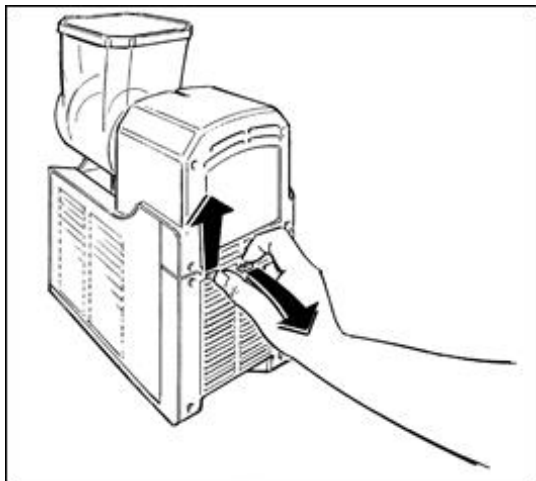
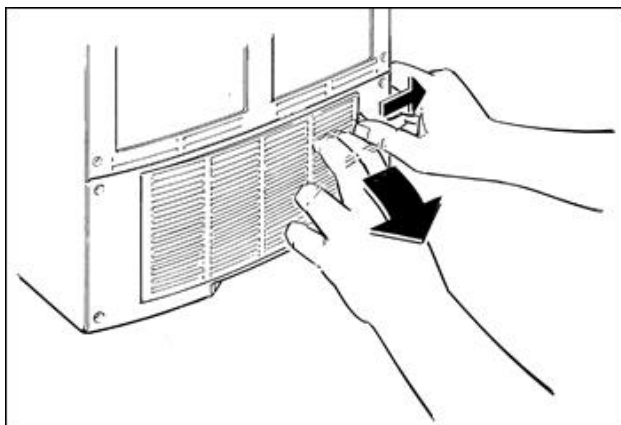

Fig. 59
Fig. 60
- Remove the rear panel as indicated in Fig. 59 and Fig. 60